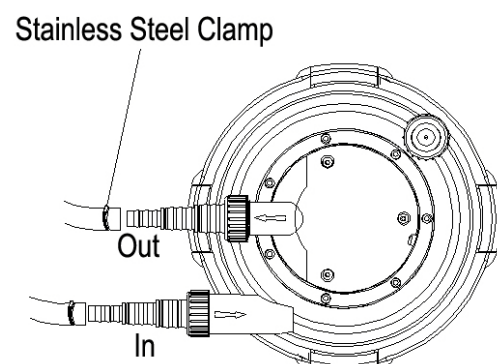

Figure 2
2. Connect your pump to the filter tubing connector marked by the “arrow in” symbol with flexible hose. Attach the tubing to the filter's connector marked by the “arrow out” symbol back to the pond. You should use stainless steel clamps to create a water tight seal at all of your tubing connection (filter and pump). (See figure 2)